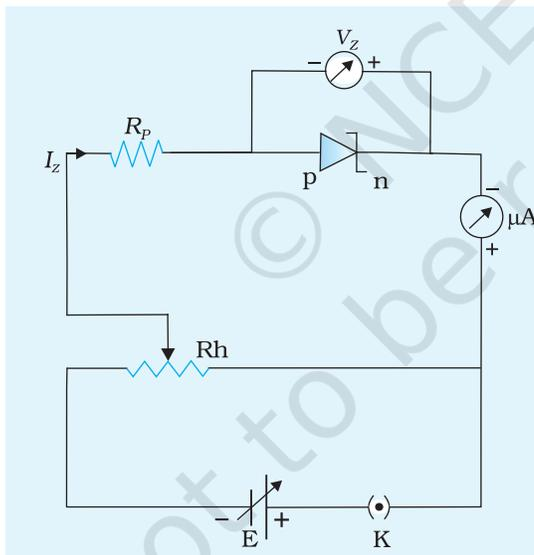

Fig. E 17.2 Circuit for Zener diode characteristic curve
A Zener diode having zener voltage V_z and power dissipation rating P_z is connected across a potential divider arrangement with maximum potential V_z across it (Fig. E 17.2). If the potential drop across the Zener diode is V_z and the rest drops across the protective resistance then we get
3. Clean the ends of the connecting wires with the help of sand paper and connect various components by the connecting wires as per the circuit arrangement (Fig. E 17.2). Take care that Zener diode is in reverse bias mode and the terminal of the microammeter and voltmeter marked positive are connected to the higher potential side of the power supply.